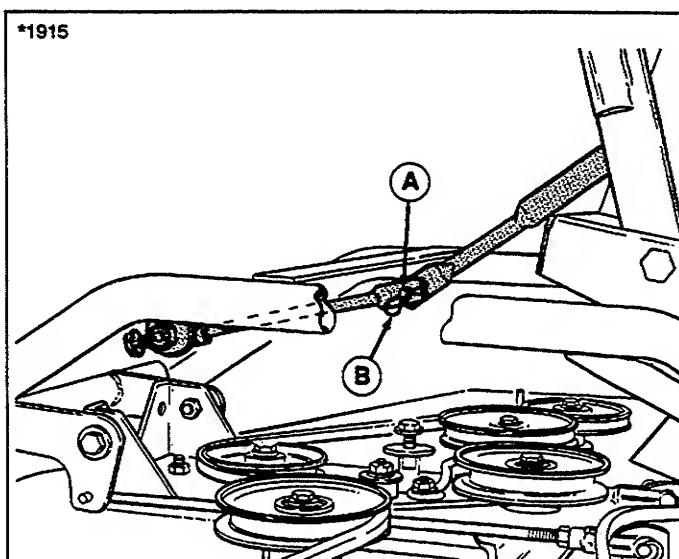

Figure 7. Lift Arm Halves
See figure 7.
- See figure 7. Disconnect the top and bottom halves of the mower lift arm. Install spring clip onto weld stud.